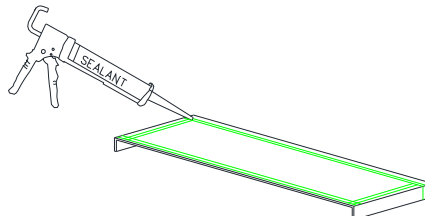

Figure 8:
- With bottom side of sill up, apply a 3/8" bead of compatible sealant 1/2" in from interior leg. Sealant bead to run across the bottom as well as up each vertical leg of the sill pan. Also apply sealant beads near the sides and across the front (Figure 8).